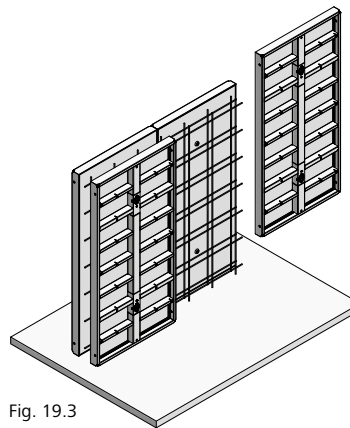

Fig. 19.3
3. Place final-formwork panel (Fig. 19.3).